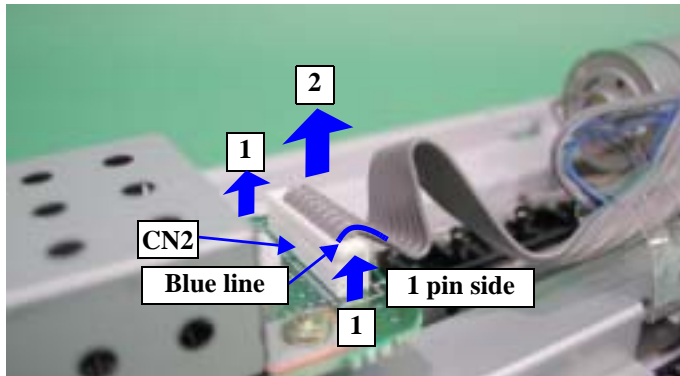

Figure 4-145. Connector Cable Lock Mechanism
- CN2 has a connector cable lock mechanism. Therefore, before disconnecting the Connector Cable, make sure that the lock mechanism has been cleared. When reconnecting the cable, insert the pins correctly into the corresponding cutouts of CN2. Refer to Figure 4-145, "Connector Cable Lock Mechanism".
- Mount the pin side, where a blue line is drawn on the Connector Cable, to the 1 pin side. Refer to Figure 4-145, "Connector Cable Lock Mechanism".